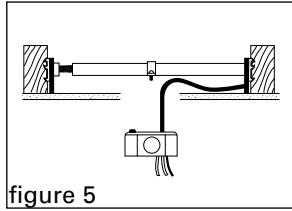

figure 5
4. Remove one knockout from electrical box and install connector. Pull the wire down through the hole and into the connector. Insert the electrical box into the hole and onto the bolts of the bracket (figure 5). Secure the box with the two nylon locknuts provided, **tighten securely** (figure 6). **Do not overtighten.**